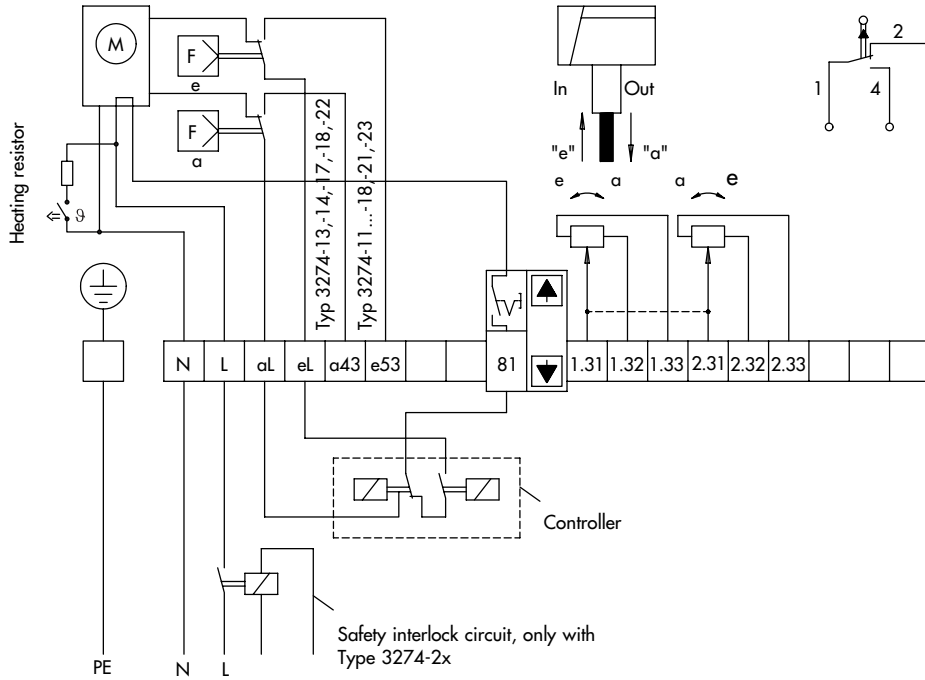

Fig. 4 · Circuit diagram for actuators without positioner
After the push button is released, the actuator reacts again according to the controller signal. The control signal can be interrupted by opening the isolator terminal (81 in Figs. 4 to 6).
**Electrical connection (Figs. 4 and 5)**
Figs. 4 and 5 schematically illustrate the different means of connection, depending on how the respective version is equipped. The electric limit switches are provided with screwed connections. They are connected directly, not via the terminal block.